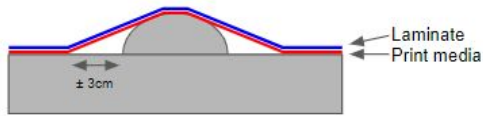

Fig.10
- 1) Position the film over the entire riveted surface, leaving a $\pm 3\text{ cm}$ gap between the flat surface and the substrate around the rivets. *Fig.10*